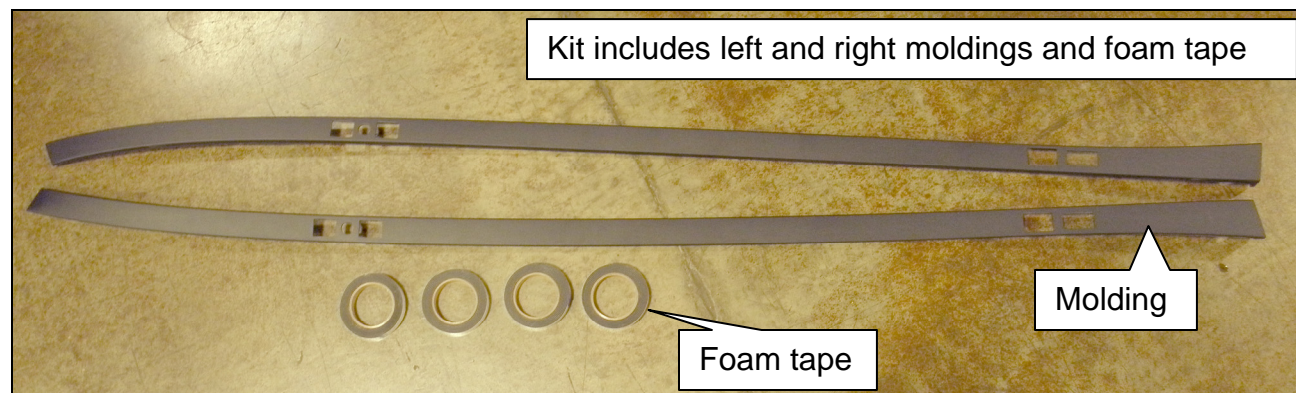

Figure 23
(1) Complete kit: Includes two moldings and four rolls of foam tape (Figure 23).